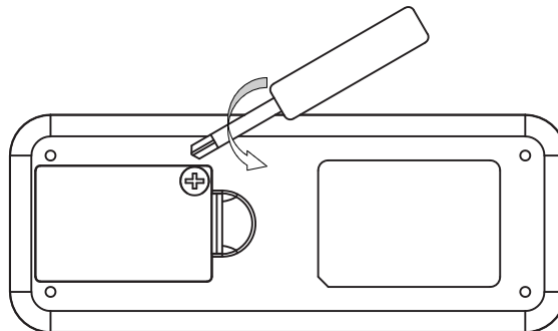

Fig. 11a
1. Loosen the screw from the battery compartment cover (Fig. 11a).